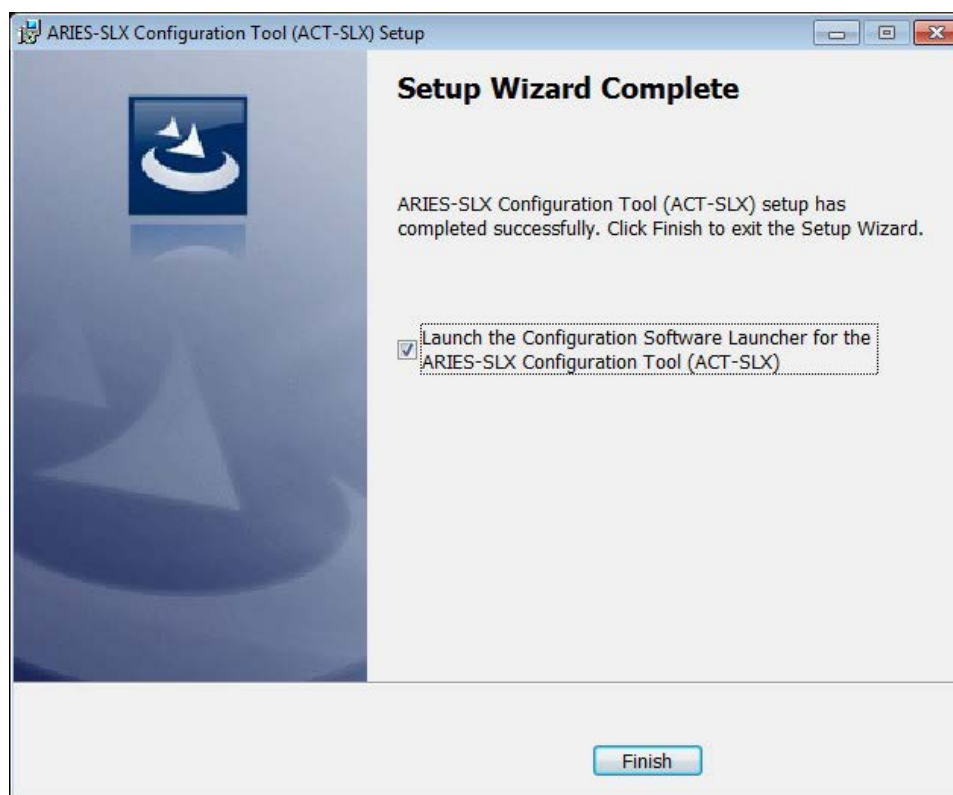

Figure 1-4. Setup Wizard Complete Screen
7. The Setup Wizard Complete screen displays (Figure 1-4). Setup of ACT-SLX is complete. If you have rebooted the computer after installing ACT-SLX software previously, there is no need to reboot now. You can select "Launch the Configuration Software Launcher for the ARIES-SLX Configuration Tool (ACT-SLX)" radio button to start the software, then select <Finish>.